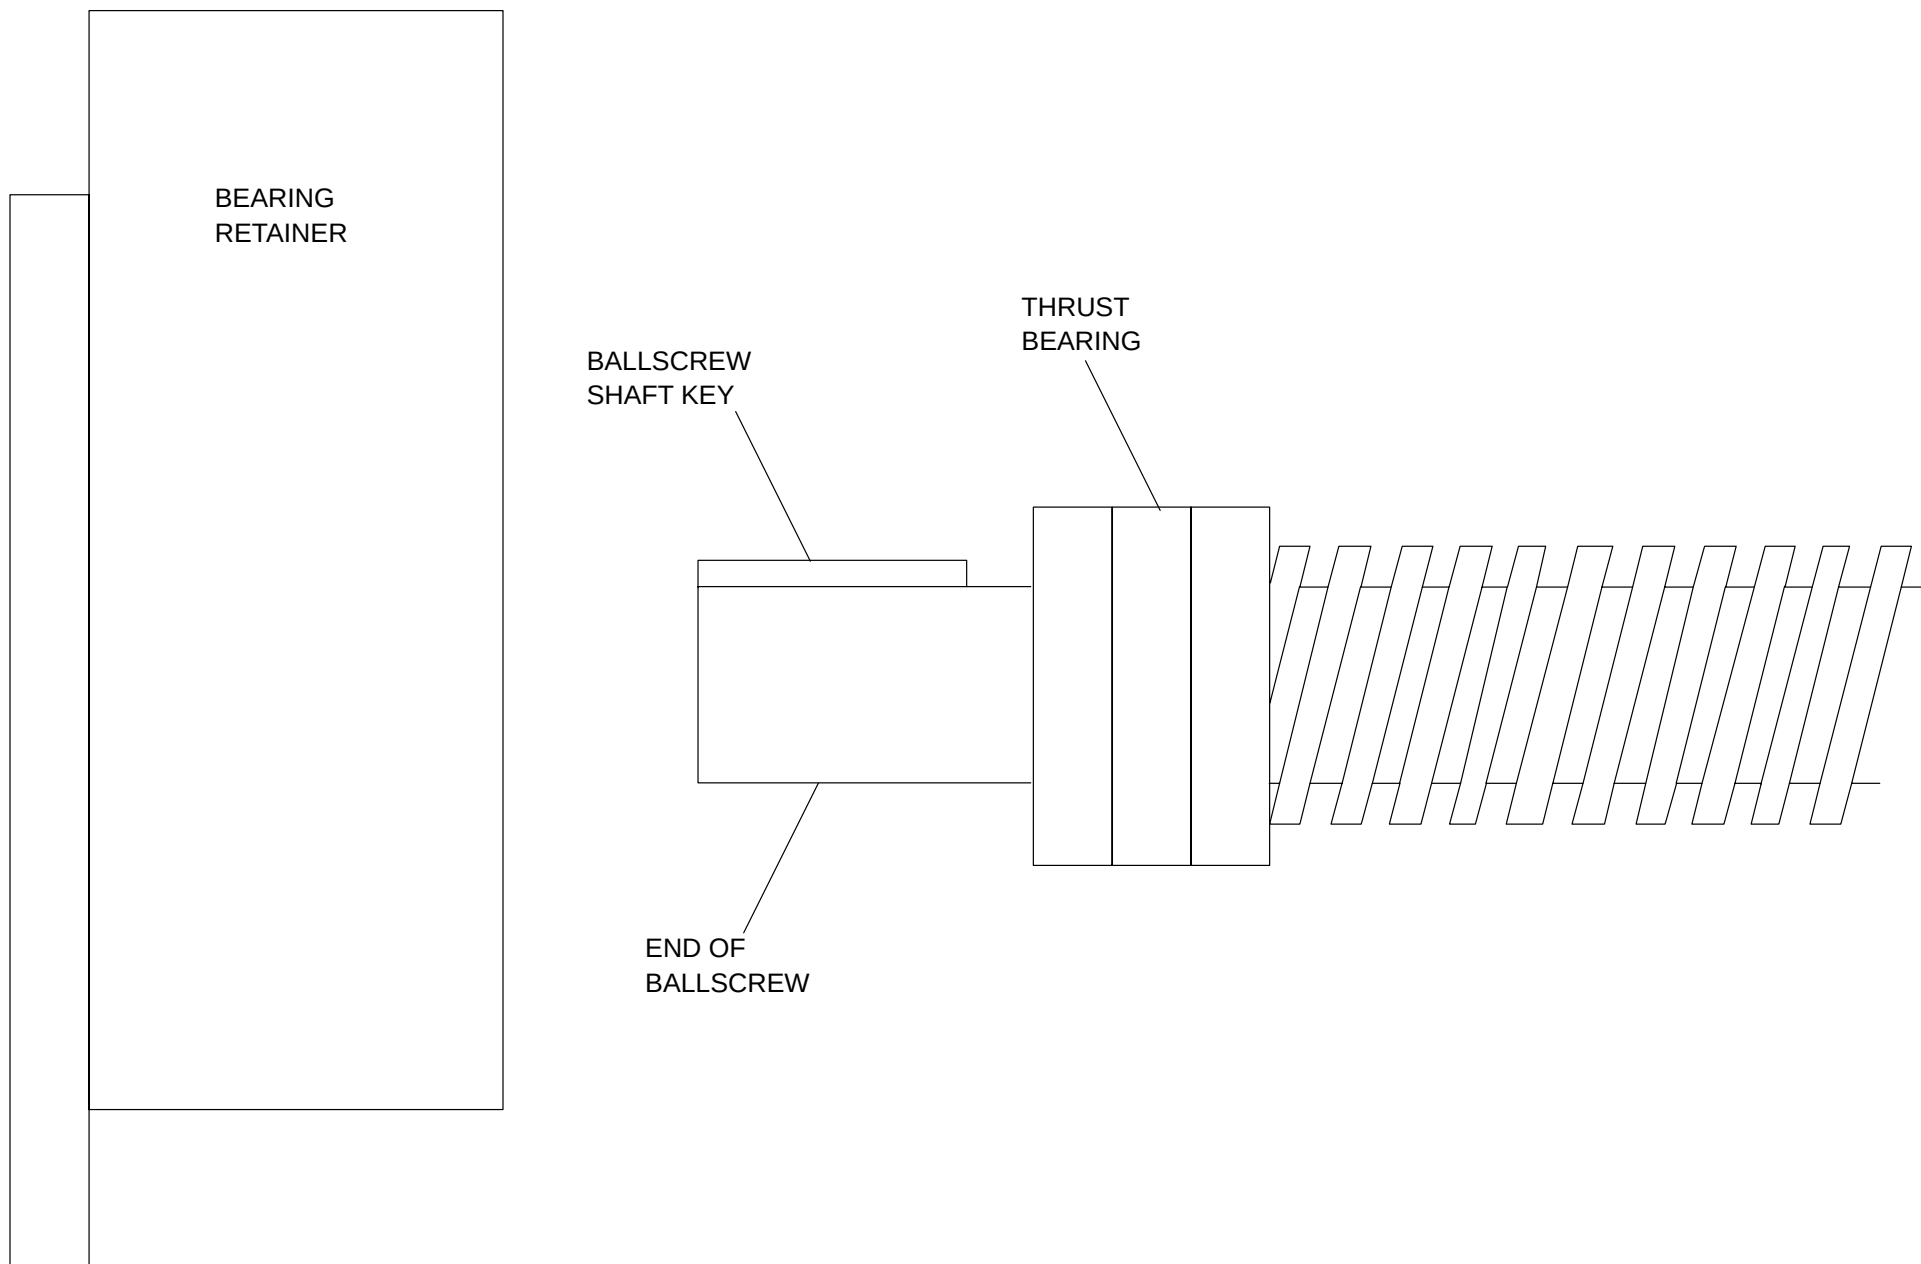

FIGURE 224 2nd Thrust Bearing Replacement Position
21. Turn ballscrew by hand to position shown in Figure 224.